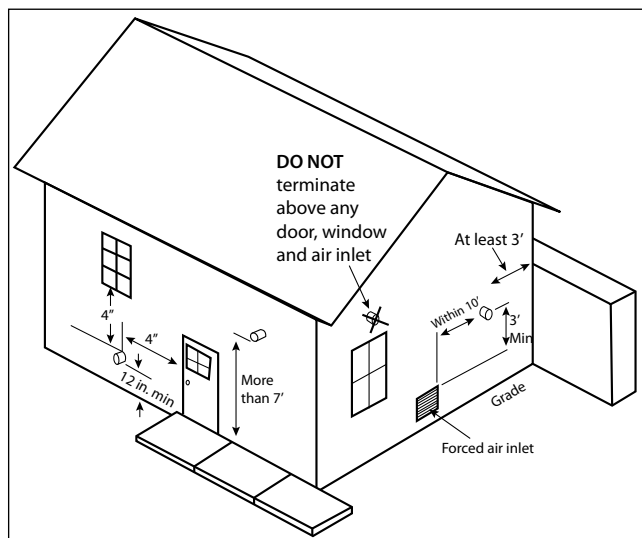

Fig. 16 - Termination Clearances of Category IV System
5. The vent termination must also maintain the following clearances; as shown in **Fig. 16 on page 25**.
5. The vent termination must also maintain the following clearances; as shown in *Fig. 16 on page 25*.